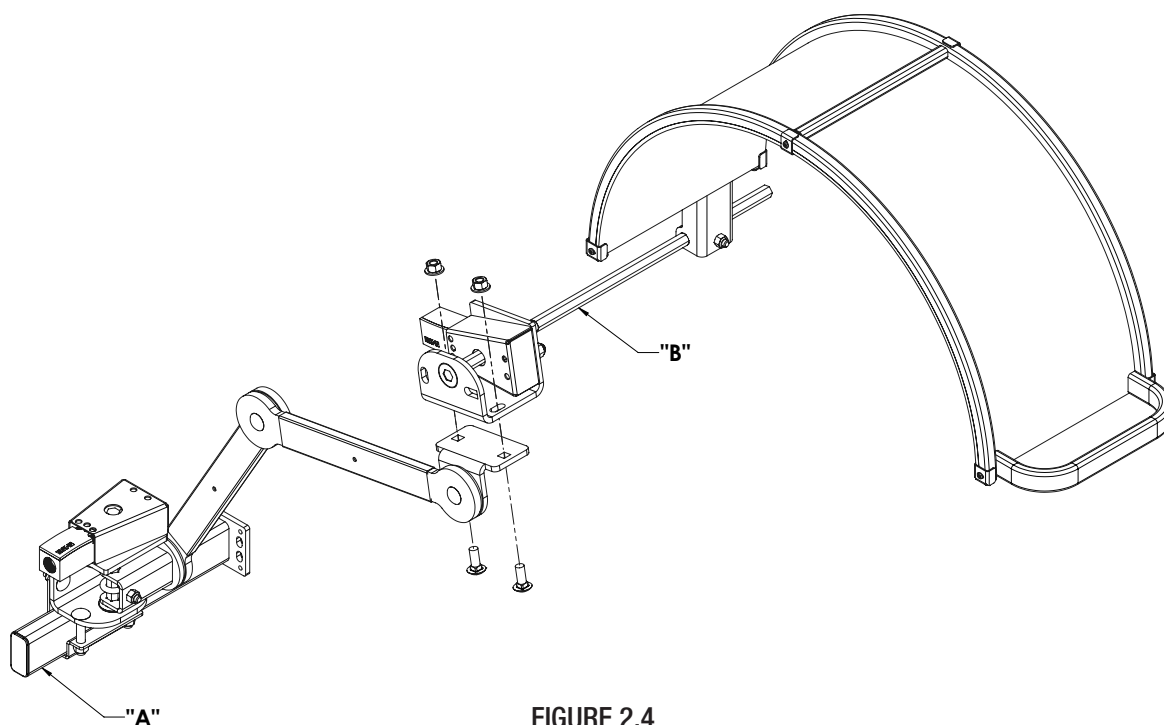

FIGURE 2.4
10. Mounting Posts (See Figure 2.4, Item A) and Shield Mounting Hex Bar (See Figure 2.4, Item B) may be trimmed, if desired, after final adjustments are made and proper operation has been verified.